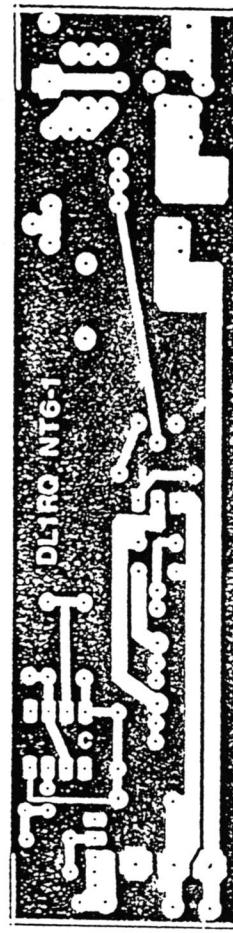

Fig. 1.3 Power Supply and Control Module DL1RQ NT6-1
The height of the panel is laid out to match commercially-available side profiles (1). Figs. 1.3 to 1.6 show the printed circuit board DL1RQ NT6-1 and the component overlay in drawing and photographs.